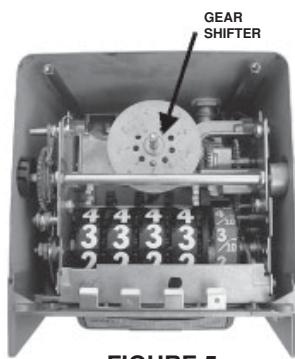

FIGURE 5
2. Lift and turn the change gear shifter (see Figure 5) in the direction indicated on the top of the shifter.